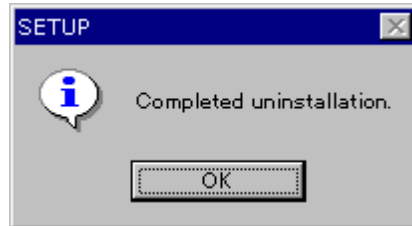

Fig. 13 Uninstall Completion Screen
(4) After the uninstallation is completed, Uninstall Completion screen shown in Fig. 13 appears.